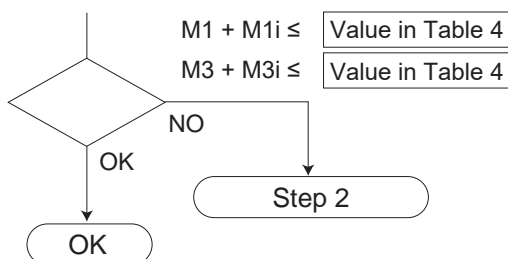

Figure 8 Trend of inertia force coefficient of SRM3
- (1) Obtain the G coefficient from the speed of entering the cushion (Va) and Figure 8 (Trend of inertia force coefficient for SRM3).